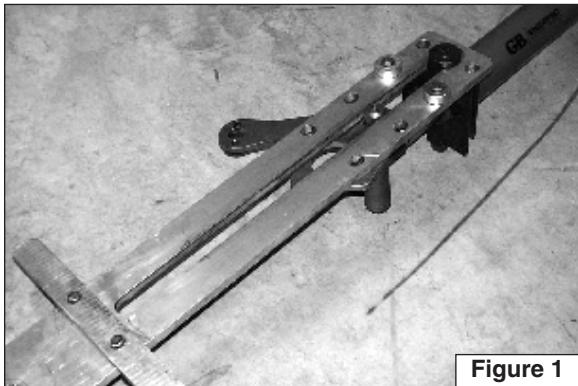

Figure 1
1. Turn the Eegor™ bottom load arm / cylinder assembly upside down, as shown in Fig. 1. Remove the four (4) flat head cap screws, freeing the two (2) rest pads and stabilizer bar from the load arm.